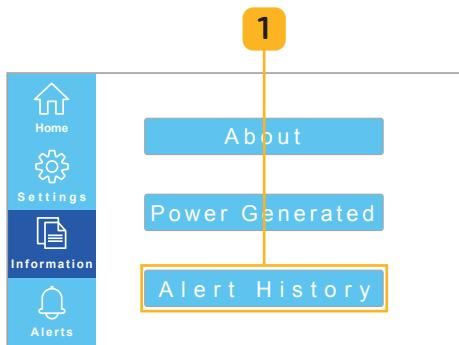

Fig. 6.33 • Select power generated button
1. Select the **Alert History** button to view the alert history details (Fig. 6.33).